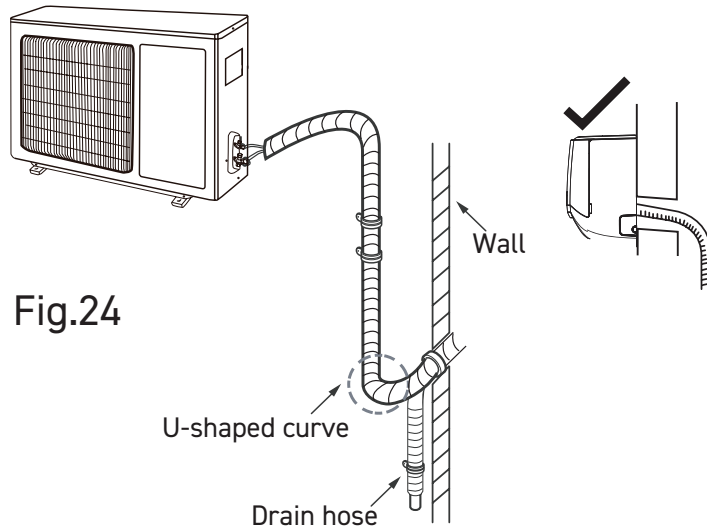

Fig.24
2. If the outdoor unit is higher than the wall hole, you must set a U-shaped curve in the pipe before pipe goes into the room, in order to prevent rain from getting into the room. (As show in Fig.24)